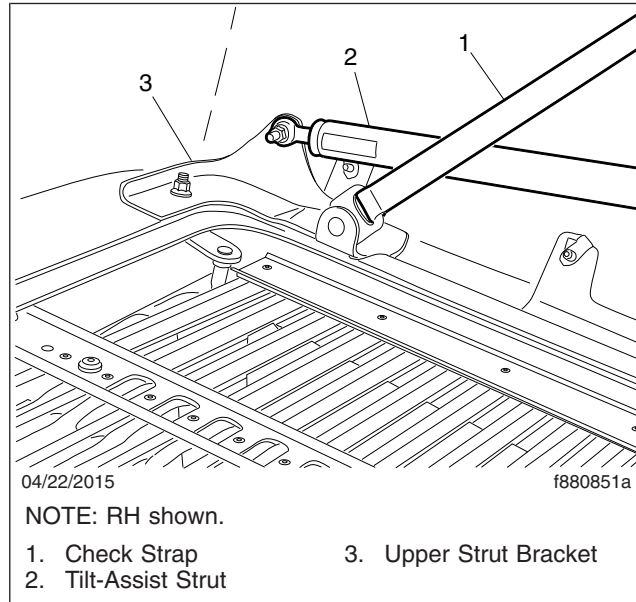

Fig. 6, Hood Tilt-Assist Strut Installation on the Hood
5. With an assistant supporting the hood in a less than full-tilt position, disconnect the check strap from the hood-mounted upper bracket. See Fig. 6.